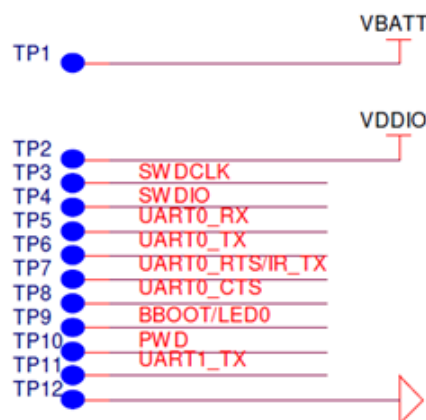

Figure 4 - Test Points on the ATM solution side
Figure 4 - Test Points on the ATM solution side
1. Find the test points or the signal traces of the signals listed in Table 1 from the design schematic and locate the test points on the PCB (e.g. Figure 4).
2. Connect VBAT (TP1) in Figure 4 to 3.2 V supply.